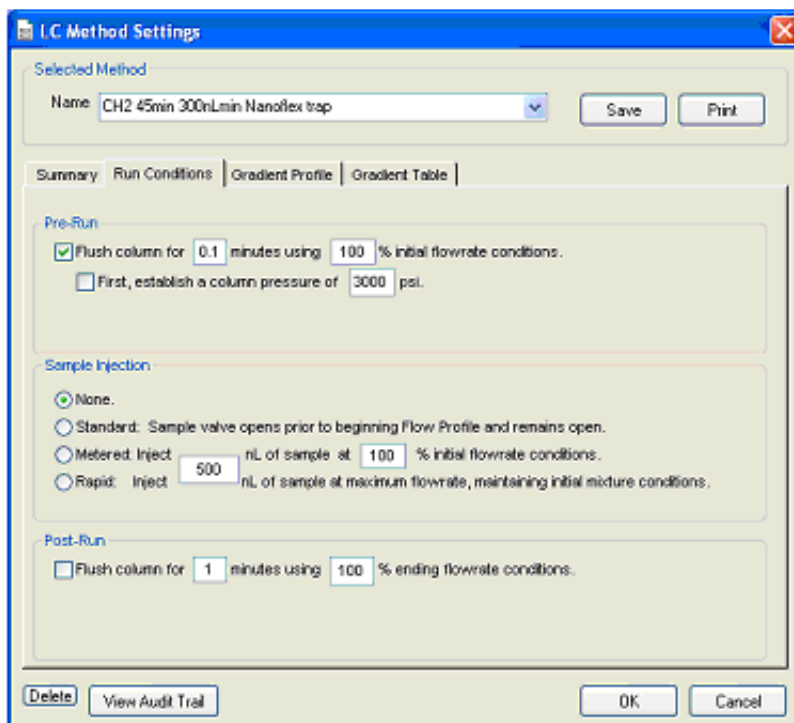

Figure 2-18 LC Method Settings dialog—Run Conditions tab (Nanoflex system)
5. On the **Run Conditions** tab, specify the method as shown in Figure 2-18.